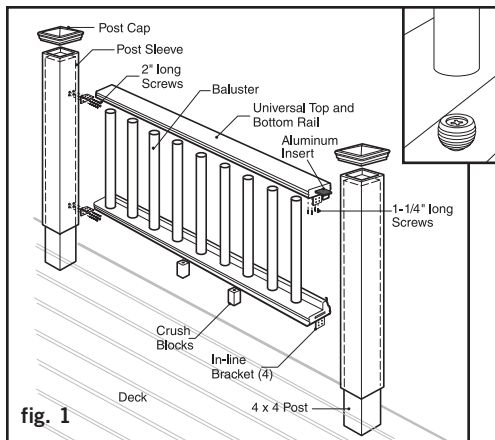
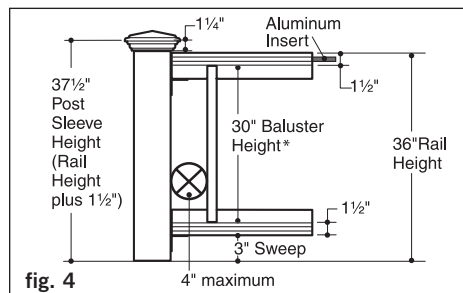

fig. 1
fig. 4
Step 5: Trim 4x4 post sleeves to length. Post sleeves should be a minimum of 1-1/2" longer than the railing height (Figure 4). Example – for a 36" high railing, trim post sleeve to a minimum of 37-1/2", can be left longer if desired.
Step 6: Measure the distance between installed post sleeves to determine the length of the top and bottom rails. Trim the top and bottom rails to fit. Using a hack saw, trim the aluminum insert to the same length as the rails. The vertical legs of the rails face outside the deck (Figure 1).
Step 9: Check building codes for a maximum spacing between deck surface and bottom of rail (sweep). 3" is recommended but can be more or less if codes allow (Figure 4). Composite balusters or round aluminum balusters may be used for the crush blocks based on preference. Cut two crush blocks to desired height and place equal distance from each post. If using composite baluster crush blocks, glue them to the bottom rail with construction glue. If using round aluminum baluster crush blocks, fasten FastBalls to bottom rail and sleeve crush blocks over FastBalls. (Refer to Figure 1).
Step 10: Position the bottom rail between posts. Mark screw locations on-center of post sleeve using the bracket as a template and pre-drill using a 1/8" drill bit. Attach bracket to the post with (4) 2" long screws at one end of bottom rail. Level bottom rail and repeat marking and pre-drilling the post sleeve for the other end. Attach to post with (4) 2" long screws.
Step 11: Determine the length of the balusters (Figure 4). Figure 4 illustrates how a 36" high railing might be sized. Starting with a 3" sweep plus 1-1/2" for the bottom railing, 30" baluster height plus 1-1/2" for the top rail equals a 36" rail height. If these are the dimensions that you are going to use, cut the balusters to 30" length using the miter saw. 42" railings use 36" balusters. If you want to have your railing at a different height, use Figure 4 as a planning tool to determine the height to cut the post sleeves and the balusters. Note: Use a fixture to ensure a consistent length (+/- 1/16").
Step 12: Composite balusters or round aluminum balusters may be used for the crush blocks based on preference. Cut two crush blocks to desired height and angle, and place equal distance from each post. If using composite baluster crush blocks, glue them to the bottom rail with construction glue. If using round aluminum baluster crush blocks, fasten FastBalls to bottom rail and sleeve crush blocks over FastBalls. (Refer to Figure 1).
Step 14: Install top rail, fitting balusters on each FastBall connector as you work across. Gently tap the top rail with a rubber mallet to eliminate any gaps. Check for plumb end to end and vertically. Attach the top rail to the post sleeves. Mark screw locations on post sleeve using the hinged bracket as a template and pre-drill using a 1/8" drill bit. Attach bracket to the post with (4) 2" long screws at one end. Plumb and repeat marking and pre-drilling the post sleeve for the other end. Attach to post with (4) 2" long screws.